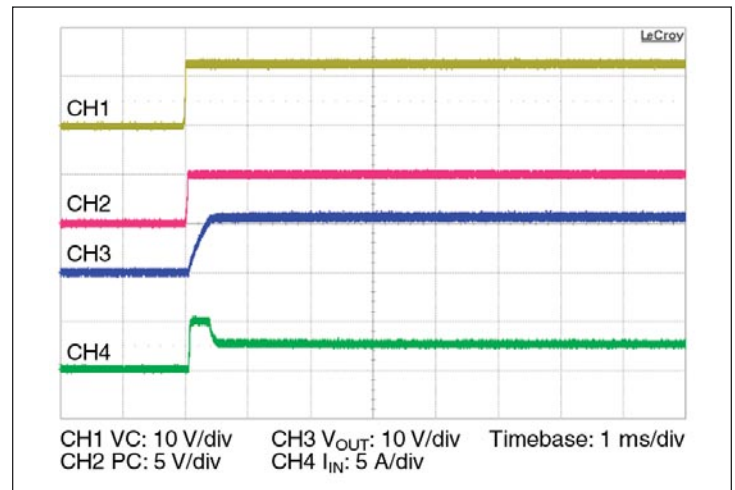

Figure 14 — Start up from application of VC;  $V_{IN}$  pre-applied
- Stand Alone Operation (VC applied after VIN): In this case the module output will begin to rise upon the application of the VC voltage (See Figure 14). The Adaptive Soft Start circuit (See Section 10) may vary the output rate of rise in order to limit the inrush current to its maximum level. When starting into high capacitance, or a short, the output current will be limited for a maximum of 900 µsec. After this period, the adaptive soft start circuit will time out and the module may shut down. No restart will be attempted until VC is re-applied, or PC is toggled. The maximum output capacitance is limited to 500 µF in this mode of operation to ensure a successful start.